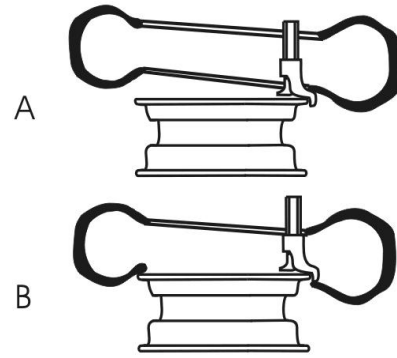

Fig. 14
* Place the bead on the edge of the head(H) and under the tongue (Fig.14).
* Rotate the chuck by pressing pedal(A) taking care to make the bead move into the central groove